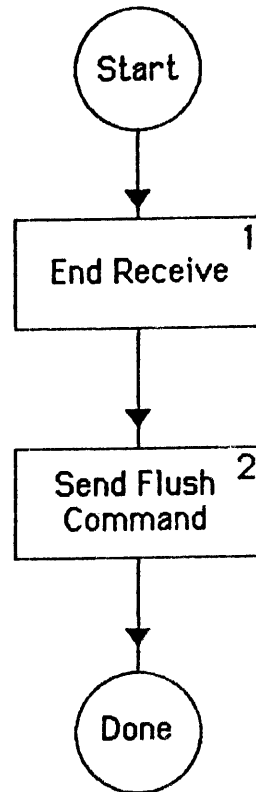

Figure 3.5: Flush
4. If a timeout error occurred, try to recover. See figure 3.5 for a description of the recovery procedure.